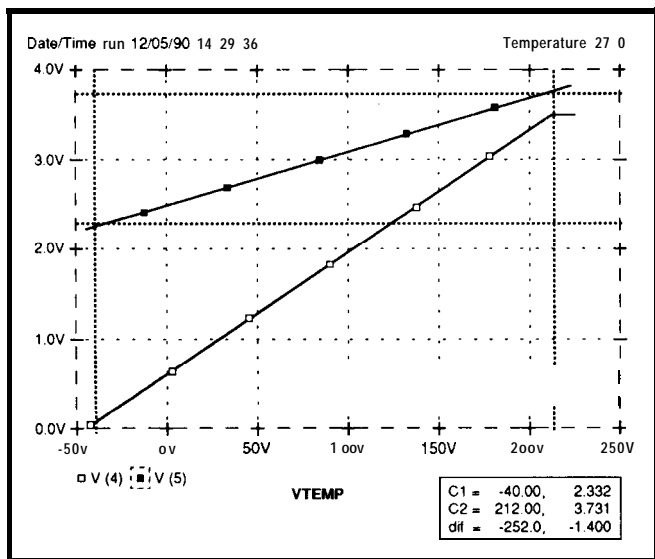

Figure 4-The results of the PSpice simulation defined in Listing 1 show the circuit's characteristics.
Listing 1 shows the worst-case section commented out. The circuit is run to check the input and output waveforms, with Figure 4 showing the results. Node voltage V(5) shows the LM335 output voltage. I used the PSpice cursor to show the value of V(5) at 40°F and 212°F. The modeling of the LM335 produces the proper voltages at each temperature. V(4) shows the amplifier is working as desired, with an output of 0.02 V at -40°F and 3.5 V at 212°F.